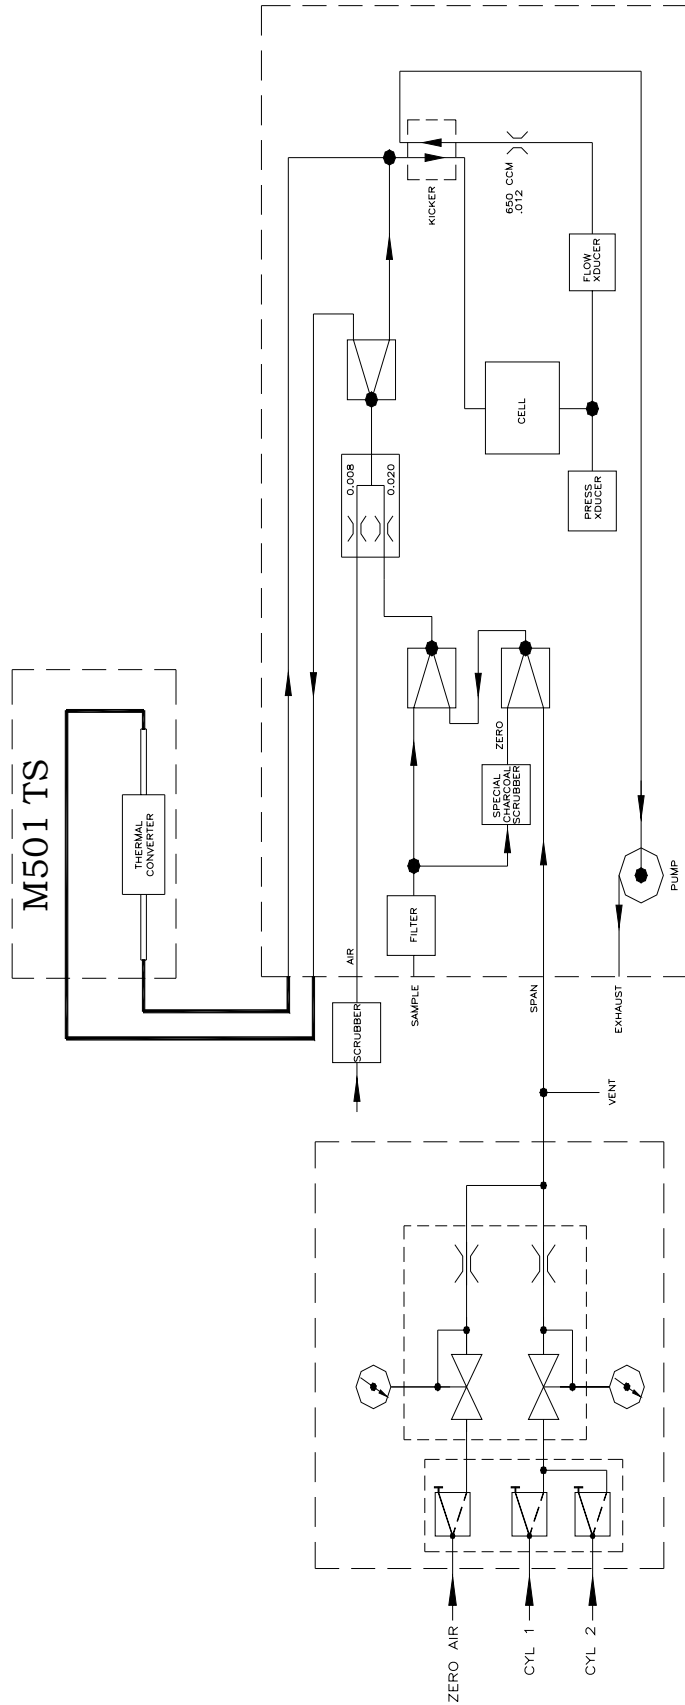

Figure 2.3 – M108A with M702 Calibrator Option
- An external M702 calibrator for blending tanks of H2S span gas with process CO2.See Figure 2.3 for the pneumatic diagram